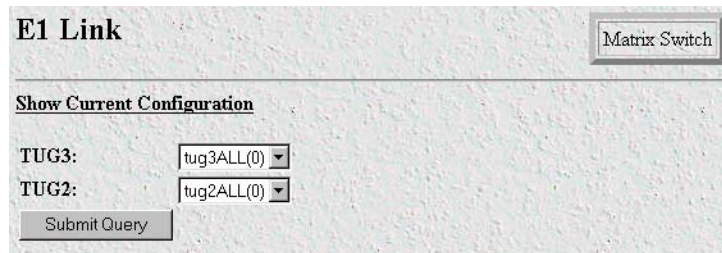

Figure 41. E1 Link page
1. On the *6511RC Configuration Menu* (see figure 27 on page 48), click the *E1 Link* hyperlink to display the *E1 Link* page (see figure 41).